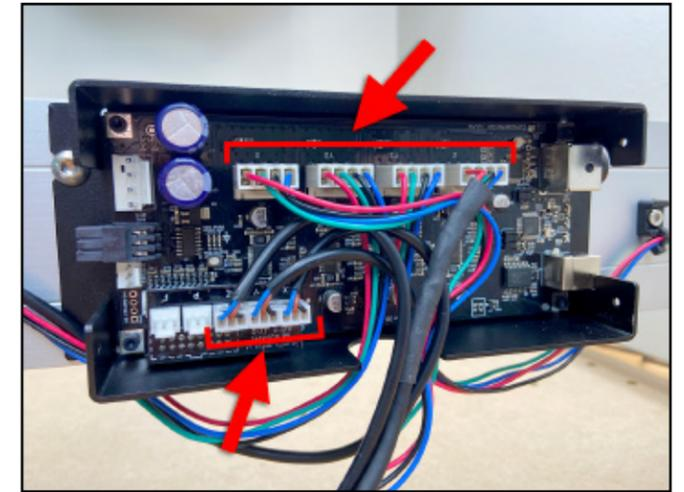

Figure 7-14
1. Plug the X- and Z-motor cables into the corresponding connectors on the Carbide Motion board labeled "X" and "Z." See **Figure 7-14**.
2. Plug the X- and Z-Axis proximity switch cables into the corresponding connectors labeled "X" and "Z" on the PCB riser board. See **Figure 7-14**.